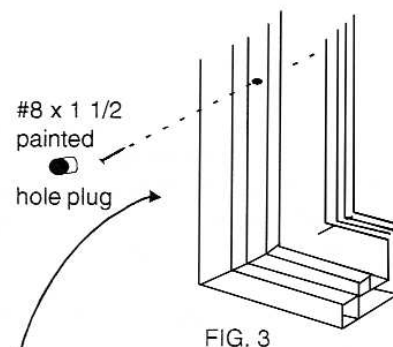

FIG. 3
4. Insert the screw thru the hole in the frame and screw into panel jamb rail. Install hole plugs. (FIG. 3)